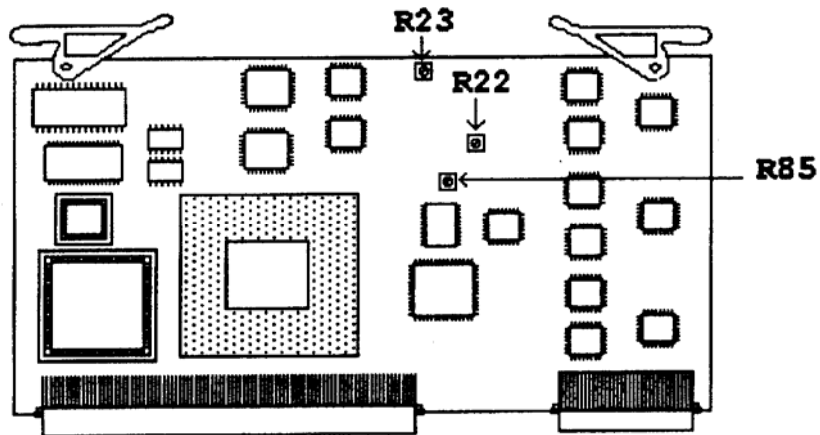

Figure 2. Function generator assembly A24.
(4) Connect multimeter **INPUT HI** and **LO** to **TI AUDIO OUT**. Set multimeter to measure volts dc.
(5) Press **FIELD SELECT ↓** key to select **LEVEL** and press **DATA ENTRY ENTER** key. Press **DATA ENTRY 3 . 1** and **ENTER** keys.
(6) Press **FIELD SELECT ↑** key to select **GEN 1** and press **DATA ENTRY ENTER** key to set **GEN 1 On**.
(7) If multimeter does not indicate $0.000 \pm .01$ V dc adjust A24R23 (fig. 2) as close as possible.
(8) Press **DATA ENTRY ENTER** key to set **GEN 1 Off**. Press **FIELD SELECT** ↓ key to select **GEN 2** and press **DATA ENTRY ENTER** key to set **GEN 2 On**.
(9) If multimeter does not indicate 0.000 ± 0.01 V dc adjust A24R22 (fig. 2) as close as possible.
(10) Press **DATA ENTRY ENTER** key to set **GEN 2 Off**. Press **FIELD SELECT** ↑ key to select **GEN 1** and press **DATA ENTRY ENTER** key to set **GEN 1 On**.
(11) Press **FIELD SELECT** ↓ key to select **GEN 1 WAVE**, adjust **DATA SCROLL** knob to select **Sine**, and press **DATA ENTRY ENTER** key. Set multimeter to measure volts ac and record multimeter indication (approximately 3.1 V rms).
(12) Press **FIELD SELECT** ↑ key to select **GEN 1** and press **DATA ENTRY ENTER** key to set **GEN 1 Off**.
(13) Press **FIELD SELECT** ↓ key to select **GEN 2 WAVE**, adjust **DATA SCROLL** knob to select **Sine**, and press **DATA ENTRY ENTER** key. Press **FIELD SELECT** ↑ key to select **GEN 2** and press **DATA ENTRY ENTER** key to set **GEN 2 On**.
(14) Adjust A24R85 (fig. 2) for a multimeter indication recorded in (11) above ± 5 mV (R).
(15) Disconnect multimeter and reconnect to TI and resistance standard set to 150 Ω.
(16) Press **MODE MTRS** key, **AUX (F6)** key, **DATA ENTRY** key 1 (Calibrations), and press **FIELD SELECT** ↓ key to select **15. Func Gen Level**. Press **DATA ENTRY ENTER** and **DATA ENTRY 1** keys (199.9 mV calibration).
(17) Use **DATA SCROLL** controls to adjust multimeter indication for 199.0 ± 1 mV ac and press **DATA ENTRY ENTER**.
(18) Press **DATA ENTRY 2** key (2.5 V calibration), use **DATA SCROLL** controls to adjust multimeter indication for 2.500 ± 0.010 V ac then press **DATA ENTRY ENTER** key.
(19) Press **ESC (F6)** key, press **FIELD SELECT** ↑ or ↓ key to highlight **8. VRMS Meter**, and press **DATA ENTRY ENTER** key.
(20) Press **DATA ENTRY ENTER** and use **DATA ENTRY** keys to enter multimeter indication to two decimal places, then press **DATA ENTRY ENTER** and **Ret (F5)** keys.
(21) Press **MODE AF GEN** (AF GEN Display) key; when prompted for backup data, press **SHIFT** and **Y** keys (Backup Cal Data ? y/n).
(22) Disconnect test equipment, press **TI POWER** key off, remove frequency generator assembly and extender card, and reinstall frequency generator assembly in proper slot. Press **TI POWER** key ON.